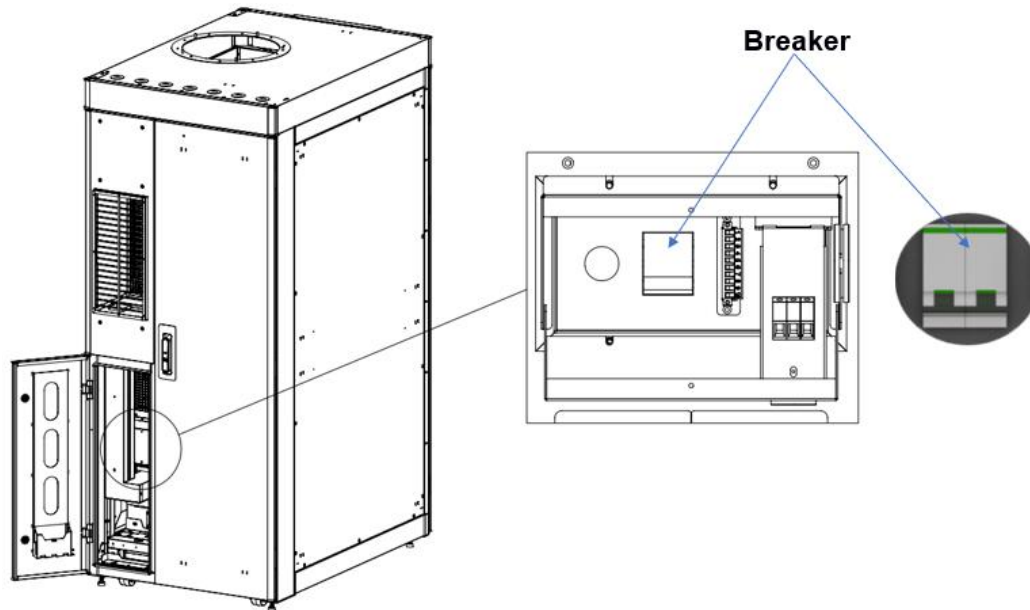

Figure 4-2 Cooling unit Breaker
- Close the circuit breaker of the cooling unit, as shown in figure 4-2.